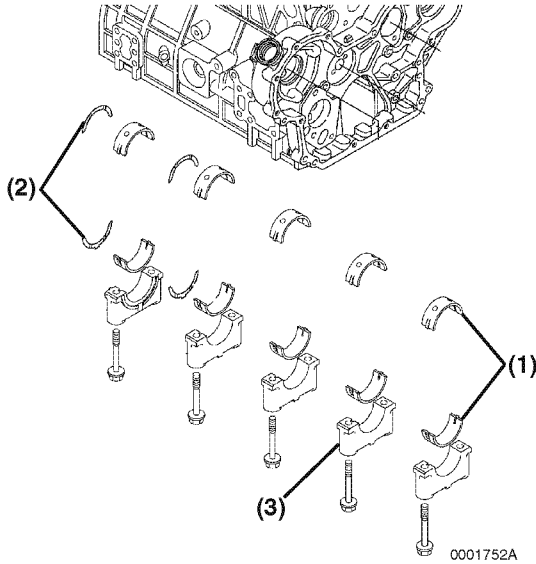

Figure 6-138
2. Reinstall new bearing inserts (Figure 6-138, (1)) and thrust bearing (Figure 6-138, (2)) in the cylinder block and main bearing caps. Apply a liberal coat of clean engine oil to the bearings and crankshaft journals.
4. Reinstall the main bearing caps (Figure 6-138, (3)).